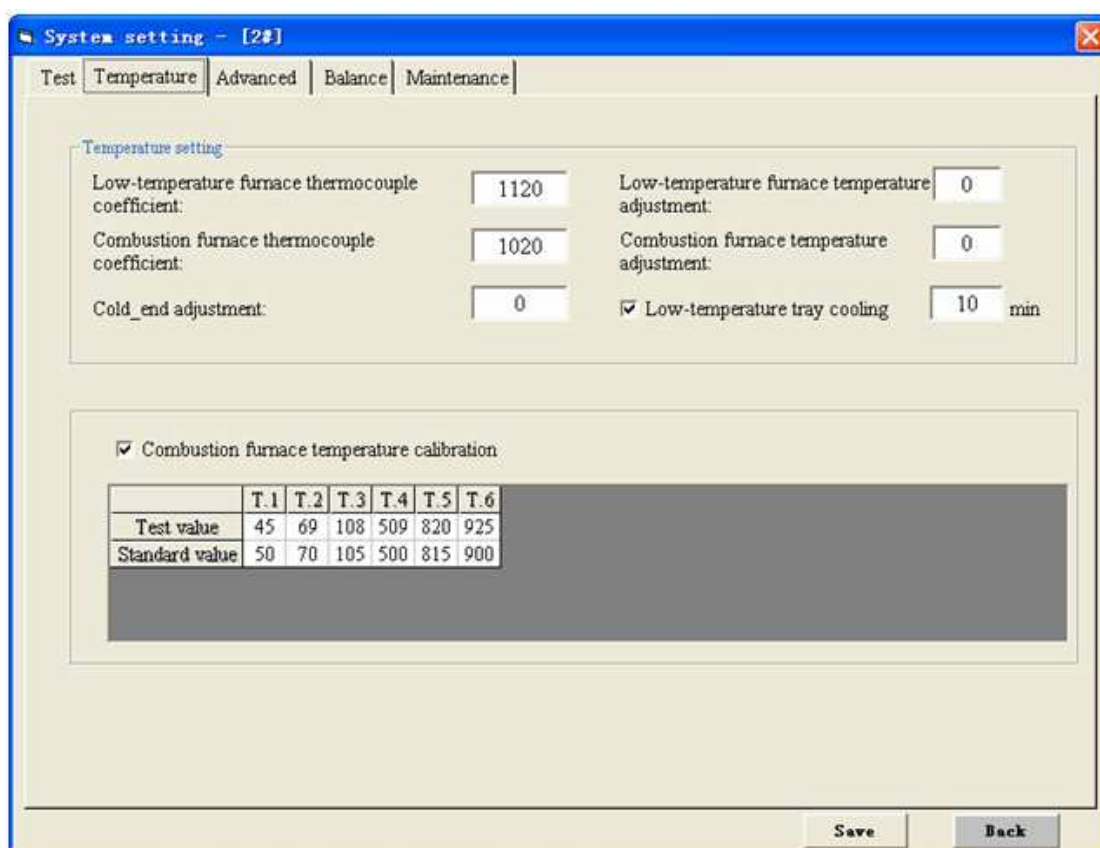

Fig.4-2-2
2. Temperature setting: Click “System setting” to enter into the window shown as Fig4-2-2.